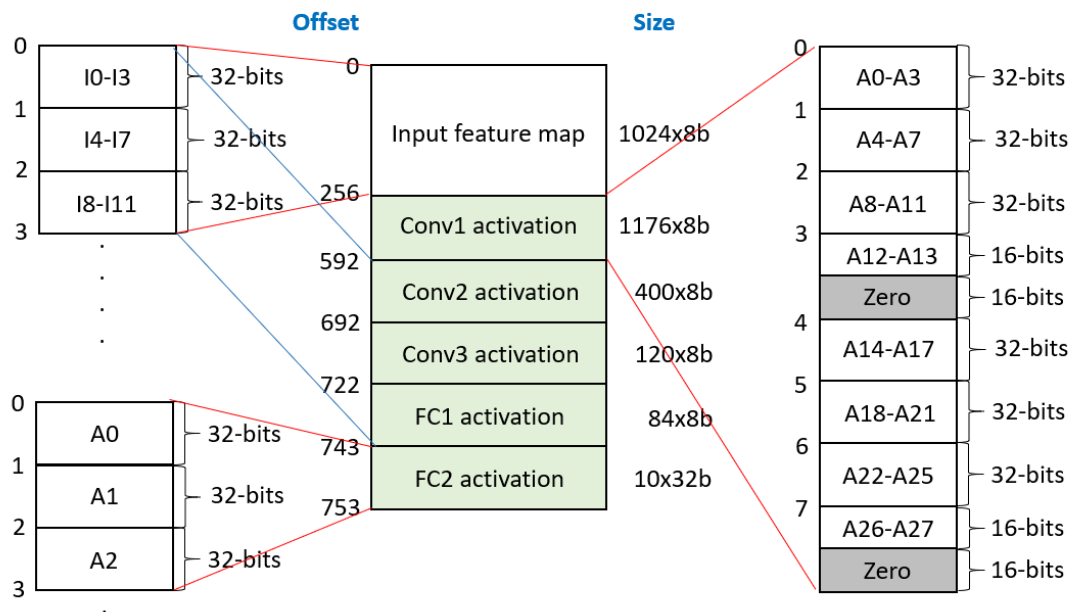

Figure 2: Layout of the activation SRAM.
4. Figure 2 shows the layout of activation SRAM. The testbench will load the input feature map from offset 0 to offset 255 in SRAM. Each address holds four 8-bit inputs. In Conv1 layer, you should place fourteen 8-bit quantized activations in every four addresses, as figure 2 shows. In this case, the computation in the following Conv2 layer may be easier. For Conv2, Conv3, and FC1 layers, you should place four 8-bit quantized data in every address for the fully-connected computation. In the last layer, FC2, we omit the rescaling and clipping since the classification result will not